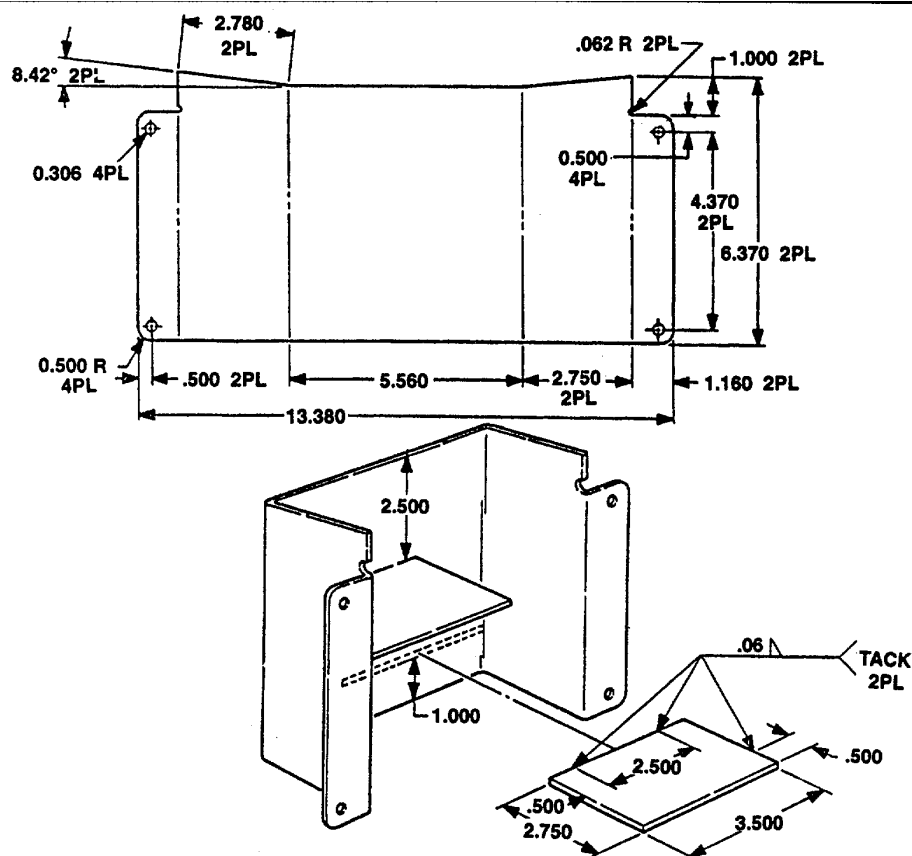

Figure C-20. Light Diverter, QQS698
1. Construct test stand using available materials and Figure C-20 as a guide.